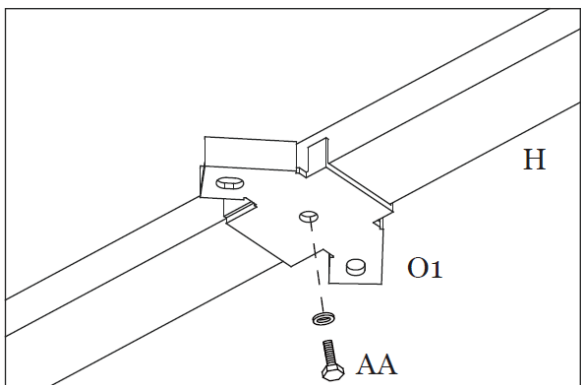

Figure 11-1
Step 11A: Attach the Main Roof Connectors (O1) to the Main Roof Corner Supports (H) using Bolts (AA). See Figure 11-1.